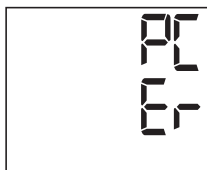

Fig. 2
- If the data transfer is unsuccessful, an error message is displayed on the blood pressure monitor, as shown in Fig. 2.